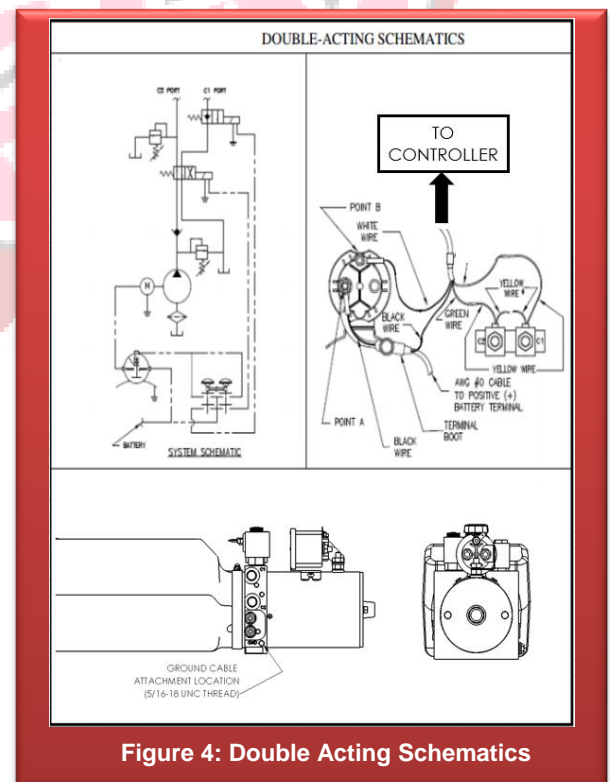

Figure 4: Double Acting Schematics
1. Route a negative #0 AWG cable from one battery to the power unit. Connect one end of the cable to the negative battery terminal. Connect the other end of the cable to the power unit's aluminum valve block with a 5/16"-18 x 3/4" hex cap screw as shown in **Figure 4**. Repeat this step for the second motor using a second battery and cable.
5. At the power unit, insert the supplied rubber terminal boot over the end of the cable and the black wire as shown in **Figure 4**.
6. Fasten the cable end and black wire to "Point A" on the solenoid start switch. Tighten to 35in/lbs. of torque. Snap the rubber terminal boot over the stud (**Figure 4**). Repeat for the second battery cable and motor.
Exceeding the torque ratings for either stud can cause the unit to malfunction, leading to property damage, serious injury, or death. See Figure 4.
1. Route a negative #0 AWG cable from one battery to the power unit. Connect one end of the cable to the negative battery terminal. Connect the other end of the cable to the power unit's aluminum valve block with a 5/16"-18 x 3/4" hex cap screw as shown in **Figure 4**.
6. Fasten the cable end and black wire to "Point A" on the solenoid start switch. Tighten to 35in/lbs. of torque. Snap the rubber terminal boot over the stud(**Figure 4**). Repeat for the second battery cable and motor.